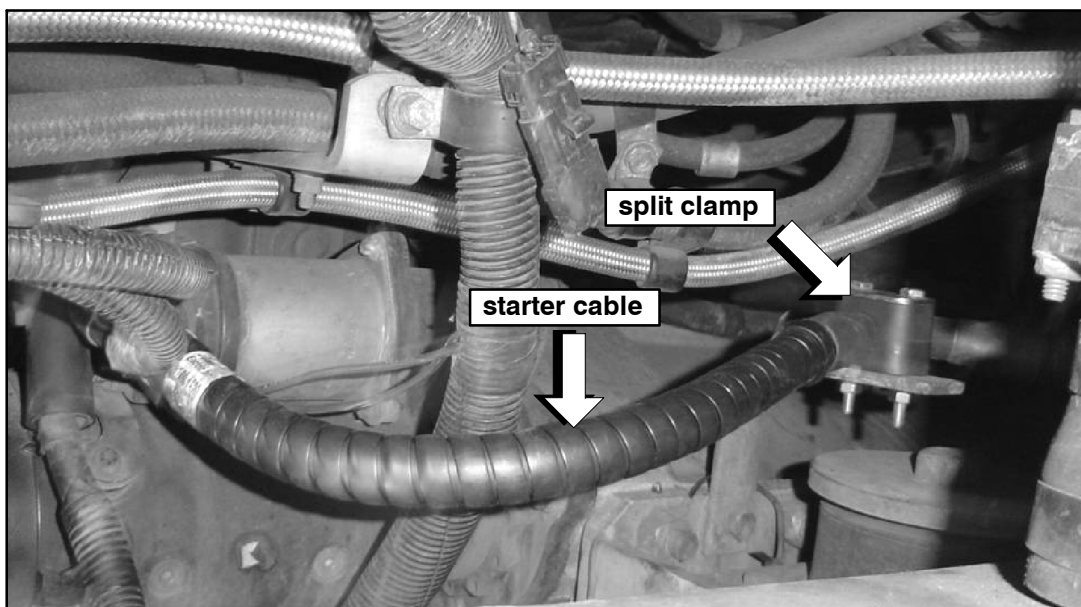

Figure 2.
7. Replace the existing split clamp with new split clamp, p/n 19-04-0419 (refer to Figure 2). Using bolts 19-1-1072, washers 19-2-289, lock washers 19-2-27 and nuts 19-3-32, secure the starter cable. Torque to 9 ft. lbs.